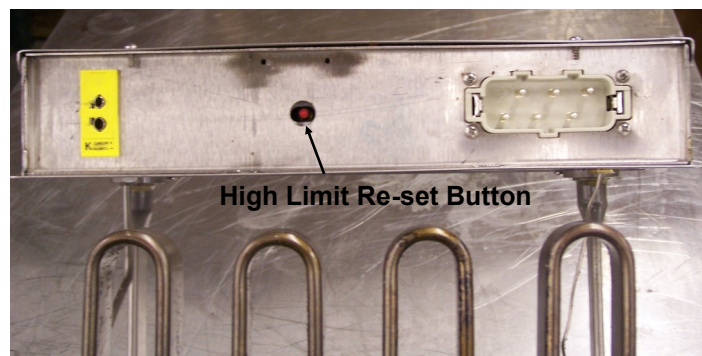

fig. 1
*Check the red hi-limit re-set button on the bottom of the heater box assembly by fully depressing it with the eraser end of a pencil. If the switch has been tripped you will hear a click (fig. 1).